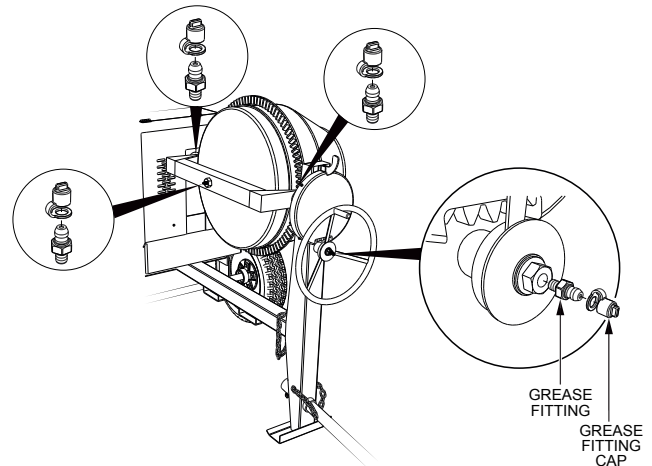

Figure 34. Grease Fittings (Mixer)
1. There are **four** grease (Figure 34) fittings that will require lubrication. Lubricate these fittings **once a week**. Use lithium base grease, grade NO.1.